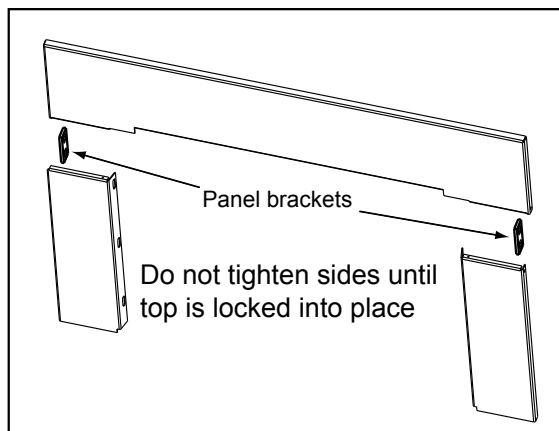

Figure 20.2
4. Assemble the panels and temporarily attach to insert. Push insert into opening leaving 1 inch (25mm) protruding out the front. Confirm the panel size is correct for the opening and that the face can be sealed off from room air when installation is complete. **Figure 20.2 & 20.3.**
- b. Put top panel in place pushing straight back and then to the right to lock onto top of side panels. Attach the top panel to the sides using the panel brackets included in the fasteners package. **Figure 20.2**